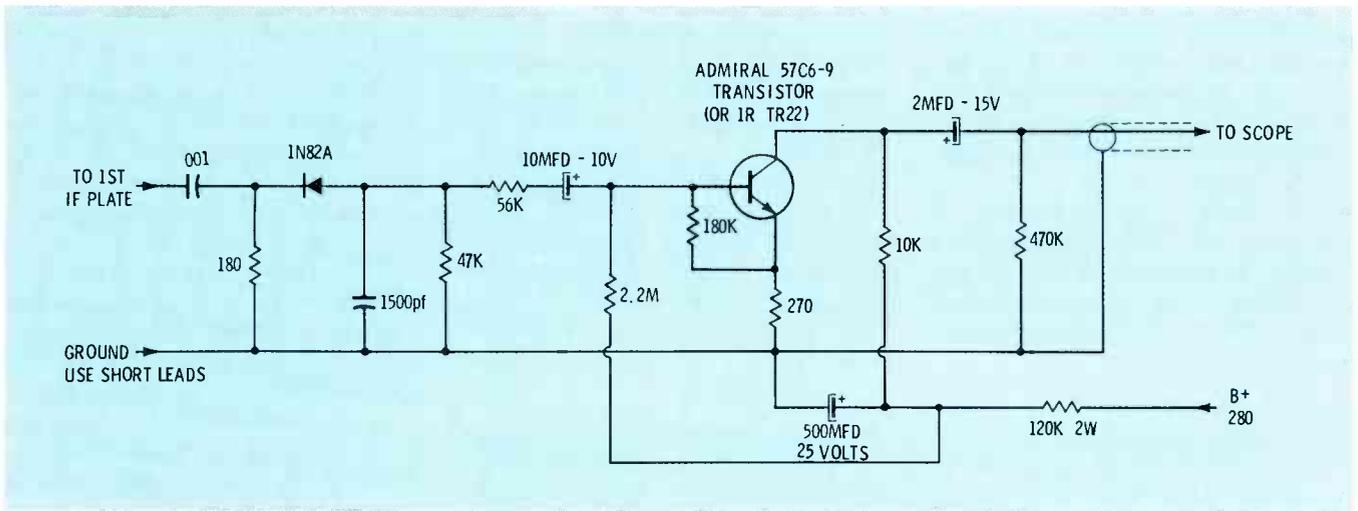

Fig. 6A Complete schematic of the Admiral "link-amplifier" circuit.
3. If your scope does not have enough gain to produce a large waveform during step 2, you may need to build the "link amplifier" whose schematic appears in Fig. 6A. This is a combination load, detector and transistor amplifier suggested by Admiral. It gives a voltage gain of about 10 times. Note that voltage from any +250- to +300-volt source in the receiver can be used to supply the silicon transistor. Solder the ground of the link amplifier to the shield, and attach the capacitor by the insulated clip to the plate of V1. The circuit pictured in Fig. 6B was built hurriedly, and is not an example of beauty, but it operates correctly. Note that it uses short leads, especially the ones to the 180-ohm resistor and the .001-mfd capacitor.